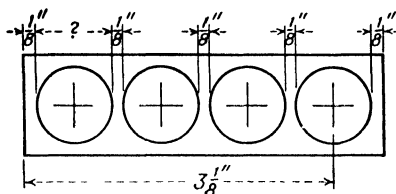

Fig. 26.
3. One of the dimensions of Fig. 26 has been omitted. Can you find it?